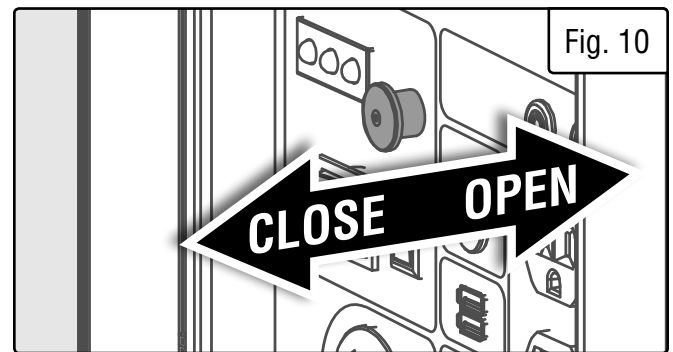

Fig. 10
2. Pull the choke button out to the CLOSE/START position (Fig. 10).
6. Once the engine has started, slowly push the choke button into the OPEN/RUN position (Fig. 10).